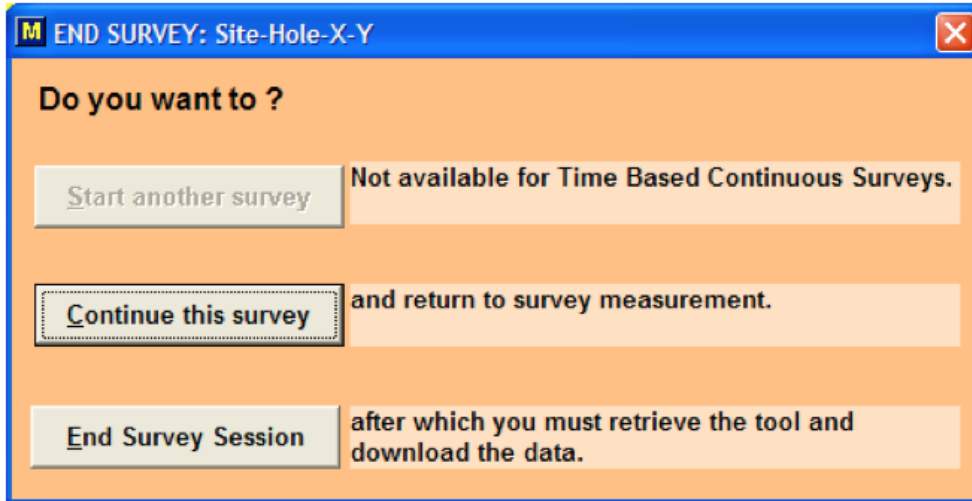

Figure 10 End survey confirmation screen
2. A confirmation screen appears to make sure you really want to finish the survey (**Figure 10**). Select **End Survey Session**.